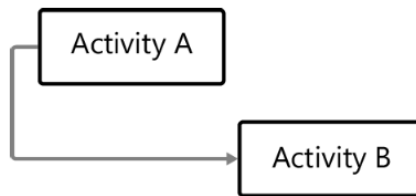

FIGURE 4-5 Start-to-Start relationship.
Start-to-start (SS) A start-to-start relationship is one in which the successor activity cannot start until the predecessor activity starts. For example, you cannot begin testing a new piece of software until you have started writing the code. Figure 4-5 depicts how this can be represented diagrammatically.